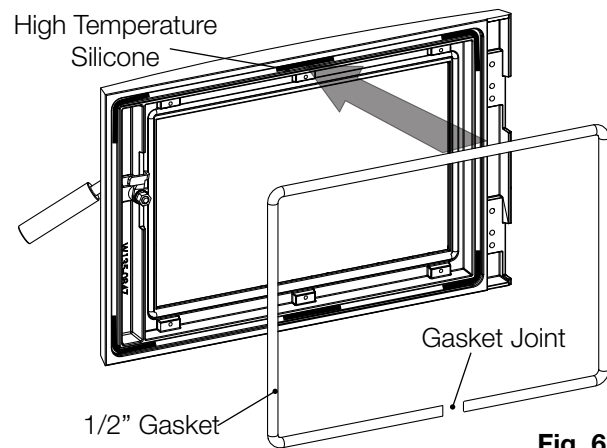

Fig. 6-4
- Apply **high temperature silicone** (not supplied) in the gasket groove as illustrated (**Fig. 6-4**).
- Cut the 1/2" gasket (supplied) to size and place on top of the silicone. Press the gasket down firmly to ensure it stays in place. Ensure the gasket joint is at the bottom as illustrated (**Fig. 6-4**).